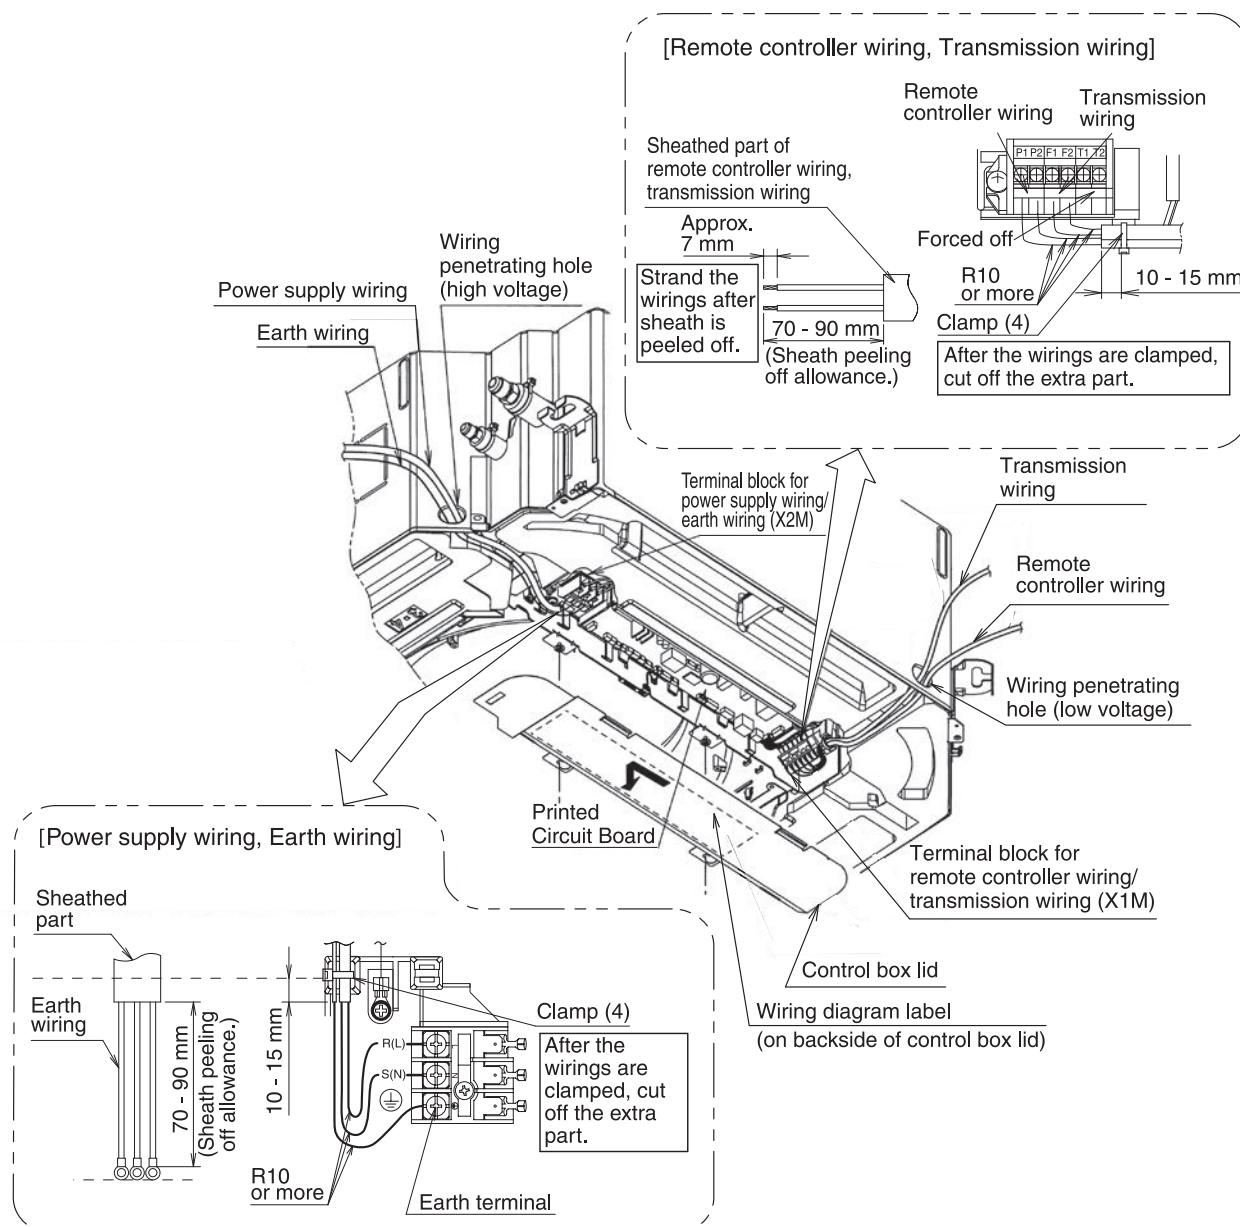

Fig.23
- Connect the terminal as shown in **Fig. 23**.